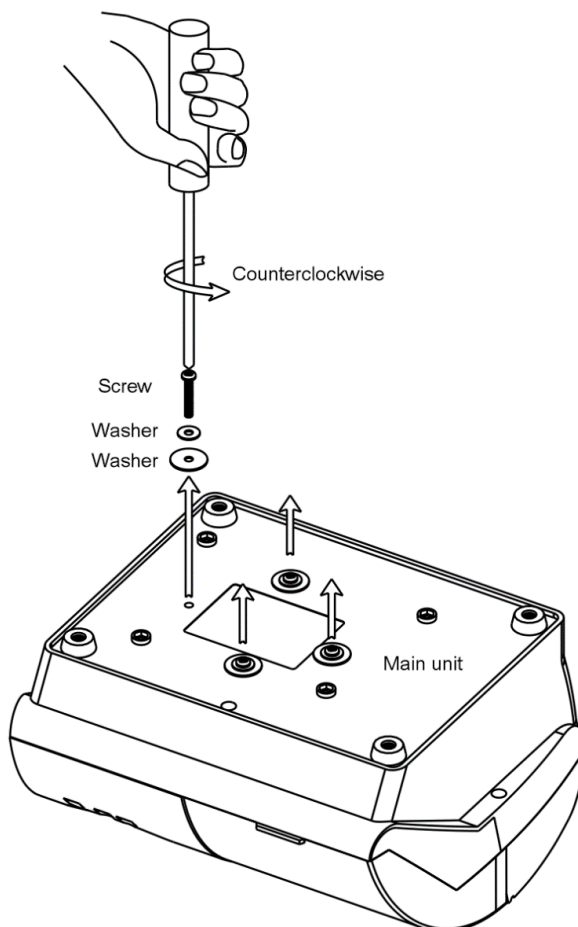

Fig 2
- 1) Take the main unit out of the packaging box, turn the bottom up, and place it on the desktop with a protective pad. As shown in Fig.2, remove the four red shipping screws with a screwdriver.